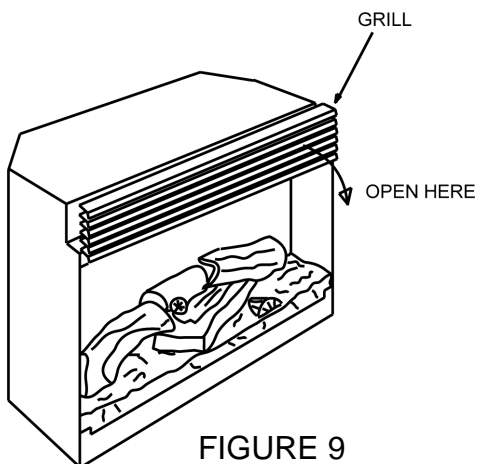

FIGURE 9
1. To access the controls, open the upper grill by pulling, near the top right hand side, forward and down. (FIGURE 9)